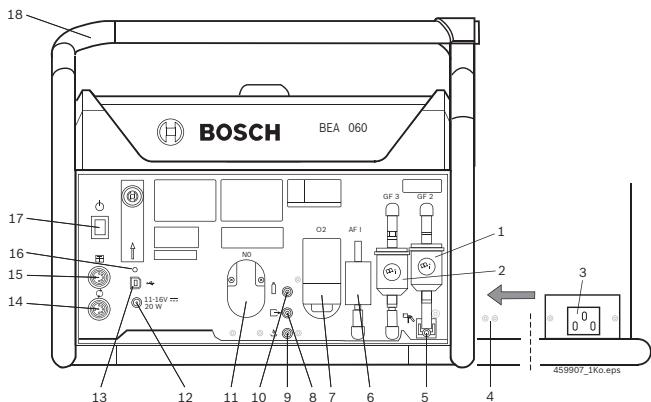

Fig. 1: BEA 060
! The BEA 060 can also be supplied with power by way of the vehicle battery using the cigarette lighter socket connecting cable (special accessory). Refer to fig. 1, pos. 12 for connection.
1. Plug in the power cord at the BEA 060 and attach the power cord at the holes (fig. 1, pos. 4) with a cable tie to provide strain relief.
→ Alternate orange and green flashing of LED (fig. 1, pos. 16).
→ The LED (fig. 1, pos. 16) goes out, the BEA 060 is switched off.